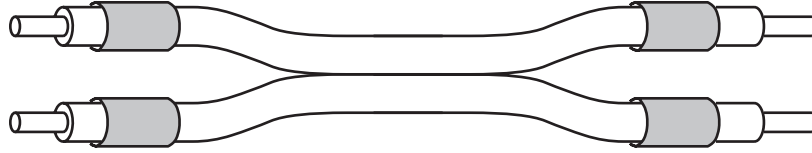

Figure 4.3: Prepare the motor cable as shown.
- Strip the insulation from both ends of the motor cable wires and slide short pieces of heat shrink tubing over each wire on each end leaving the stripped portion exposed. See Figure 4.3.